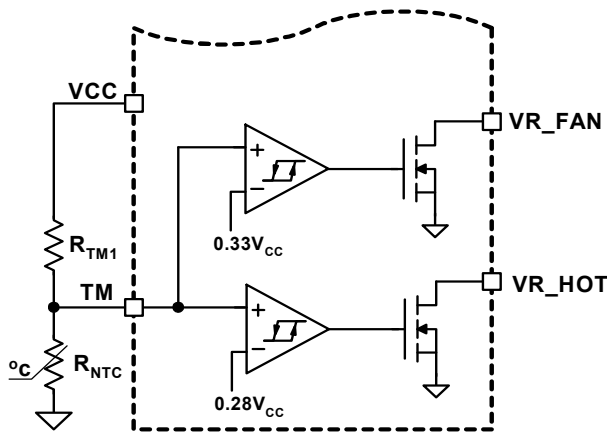
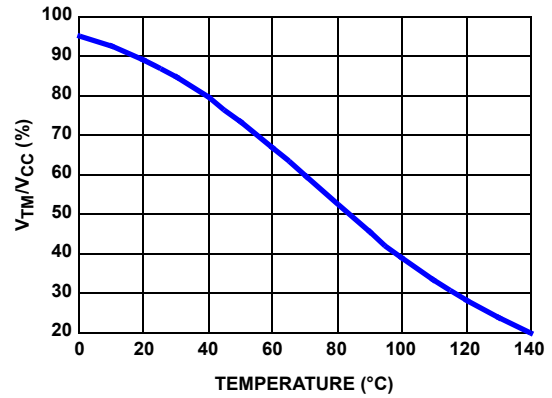

FIGURE 12. BLOCK DIAGRAM OF THERMAL MONITORING FUNCTION
FIGURE 13. THE RATIO OF TM VOLTAGE TO NTC TEMPERATURE WITH RECOMMENDED PARTS
The diagram of thermal monitoring function block is shown in Figure 12. One NTC resistor should be placed close to the power stage of the voltage regulator to sense the operational temperature, and one pull-up resistor is needed to form the voltage divider for TM pin. As the temperature of the power stage increases, the resistance of the NTC will reduce, resulting in the reduced voltage at TM pin. Figure 13 shows the TM voltage over the temperature for a typical design with a recommended 6.8kΩ NTC (P/N: NTHS0805N02N6801 from Vishay) and 1kΩ resistor RTM1. We recommend using those resistors for the accurate temperature compensation.
Based on VCC voltage, ISL6327 converts the TM pin voltage to a 6-bit TM digital signal for temperature compensation. With the non-linear A/D converter of ISL6327, TM digital signal is linearly proportional to the NTC temperature. For accurate temperature compensation, the ratio of the TM voltage to the NTC temperature of the practical design should be similar to that in Figure 13.
1. Properly choose the voltage divider for TM pin to match the TM voltage vs temperature curve with the recommended curve in Figure 13.